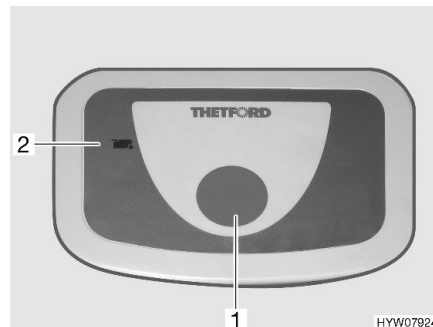

Fig. 111 Flush button/indicator lamp (Thetford toilet)
- For flushing, press the blue flush button (Fig. 111,1).
The indicator lamp (Fig. 111,2) lights up whenever the sewage tank has to be emptied.